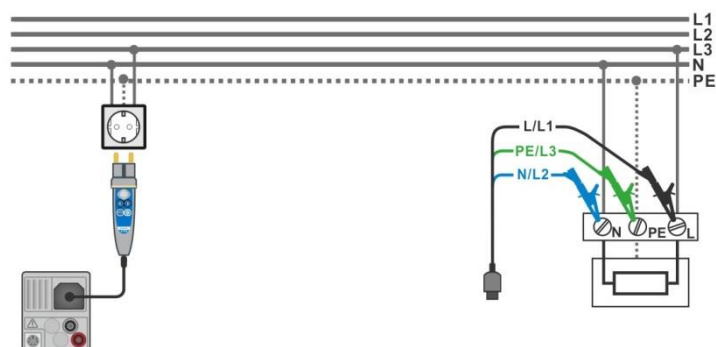

Figure 7.88: Connection of Plug commander and 3-wire test lead
- › Connect test leads or Plug commander to the object under test, see **Figure 7.88**.